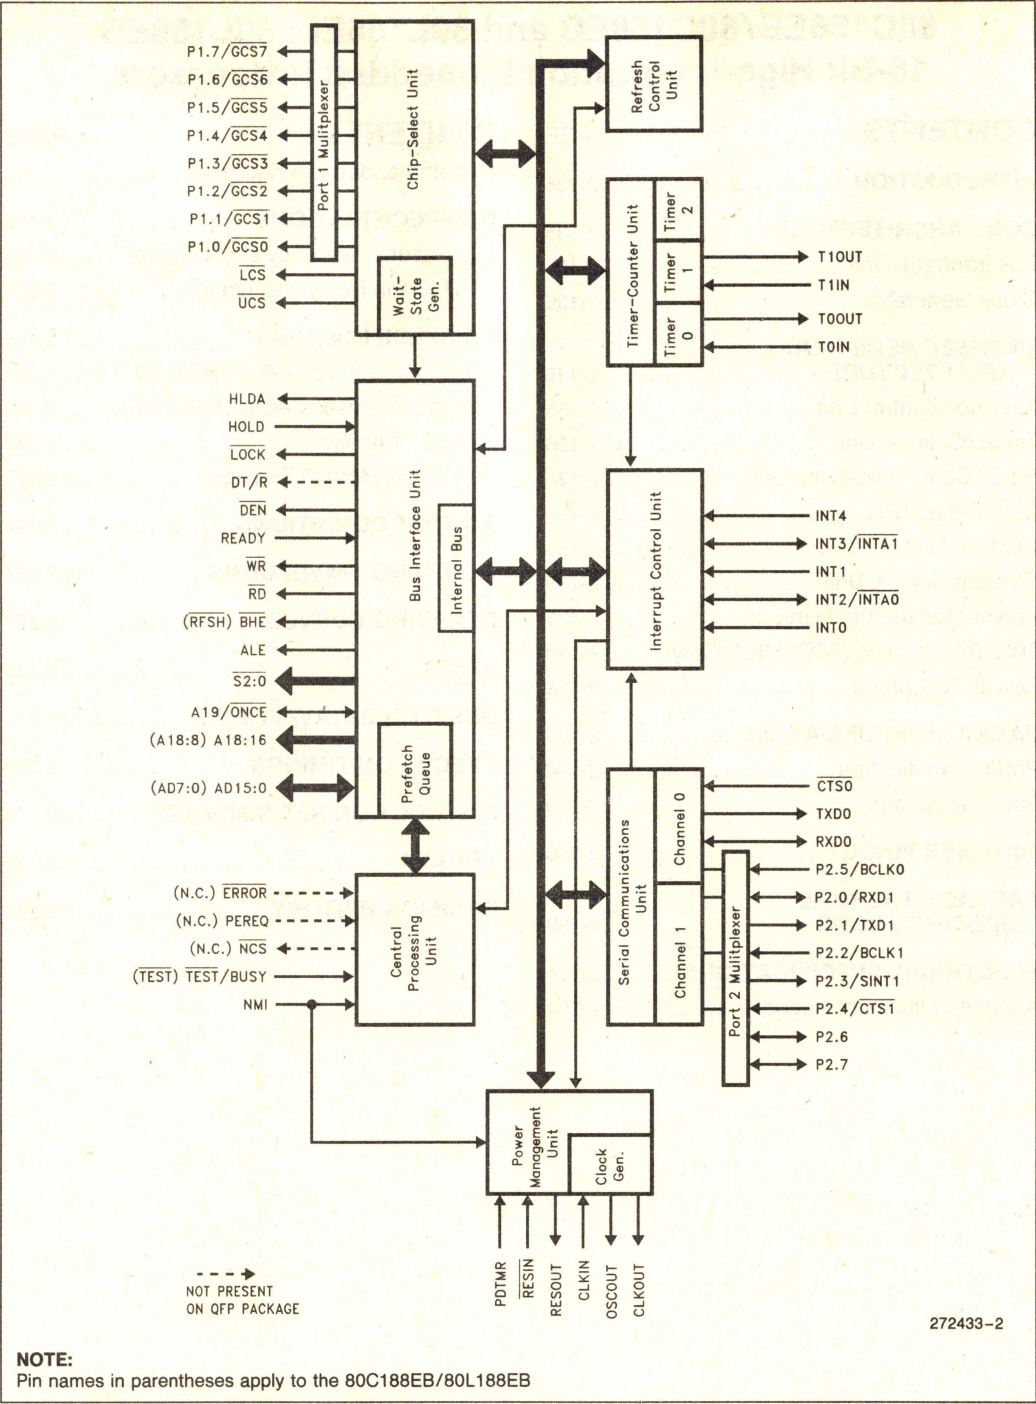

Figure 1. 80C186EB/80C188EB Block Diagram
Figure 1 shows a block diagram of the 80C186EB/80C188EB. The Execution Unit (EU) is an enhanced 8086 CPU core that includes: dedicated hardware to speed up effective address calculations, enhance execution speed for multiple-bit shift and rotate instructions and for multiply and divide instructions, string move instructions that operate at full bus bandwidth, ten new instruction, and fully static operation. The Bus Interface Unit (BIU) is the same as that found on the original 186 family products, ex-